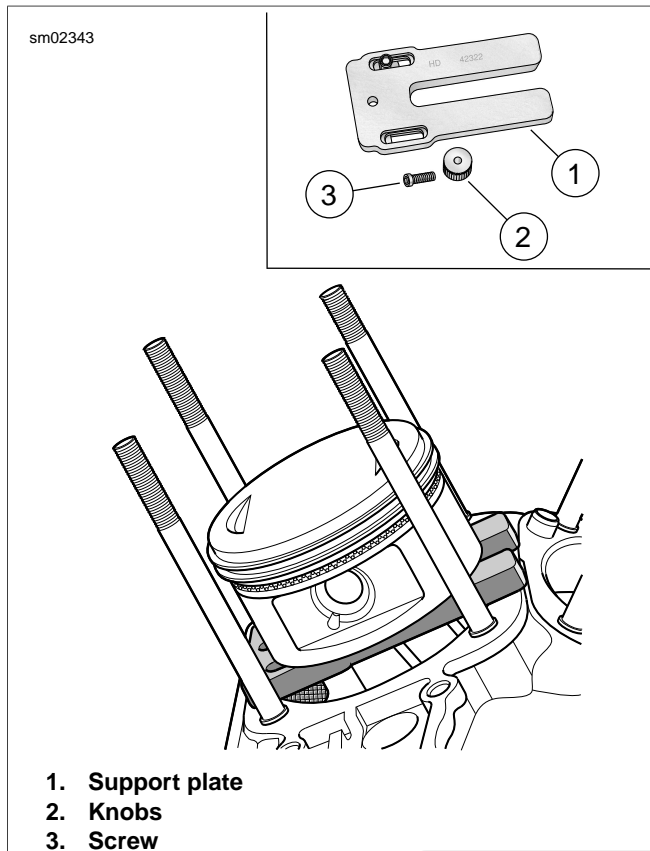
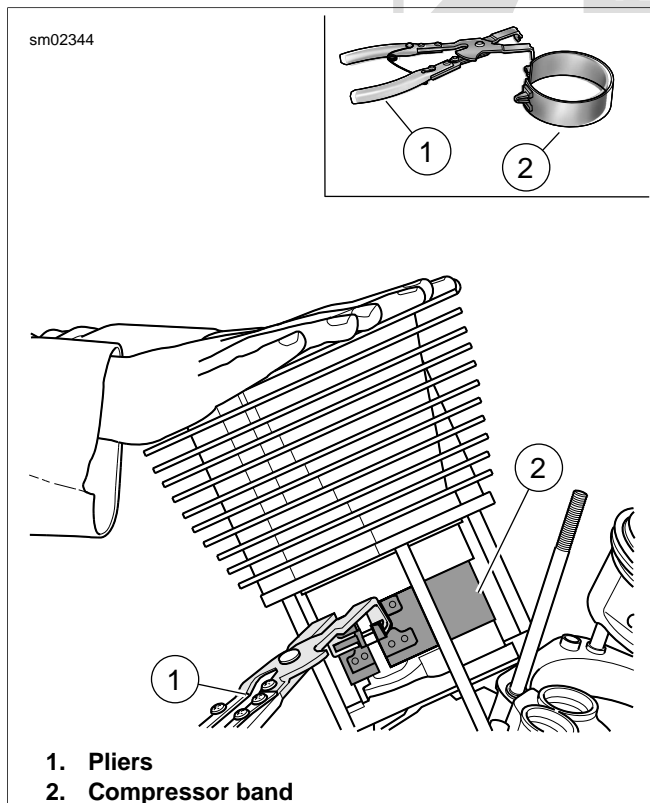

Figure 3-31. Piston Support Plate
Figure 3-32. Piston Ring Compressor
6. See Figure 3-31. Install the PISTON SUPPORT PLATE (Part No. HD-42322).
- a. Slide both adjustable knobs (2) on support plate (1) down away from forked end. Tighten knobs when contact is made with flats at end of slots.
7. See Figure 3-32. Install cylinder using PISTON RING COMPRESSOR (Part No. HD-96333-51F).
- a. Fit tabs on pliers (1) into slots of ring compressor band (2). The arrow stamped on the band indicates the side that faces up, so disregard the word "bottom". Place band around piston. Press the lever on the right side of the pliers to open the jaws for band expansion.